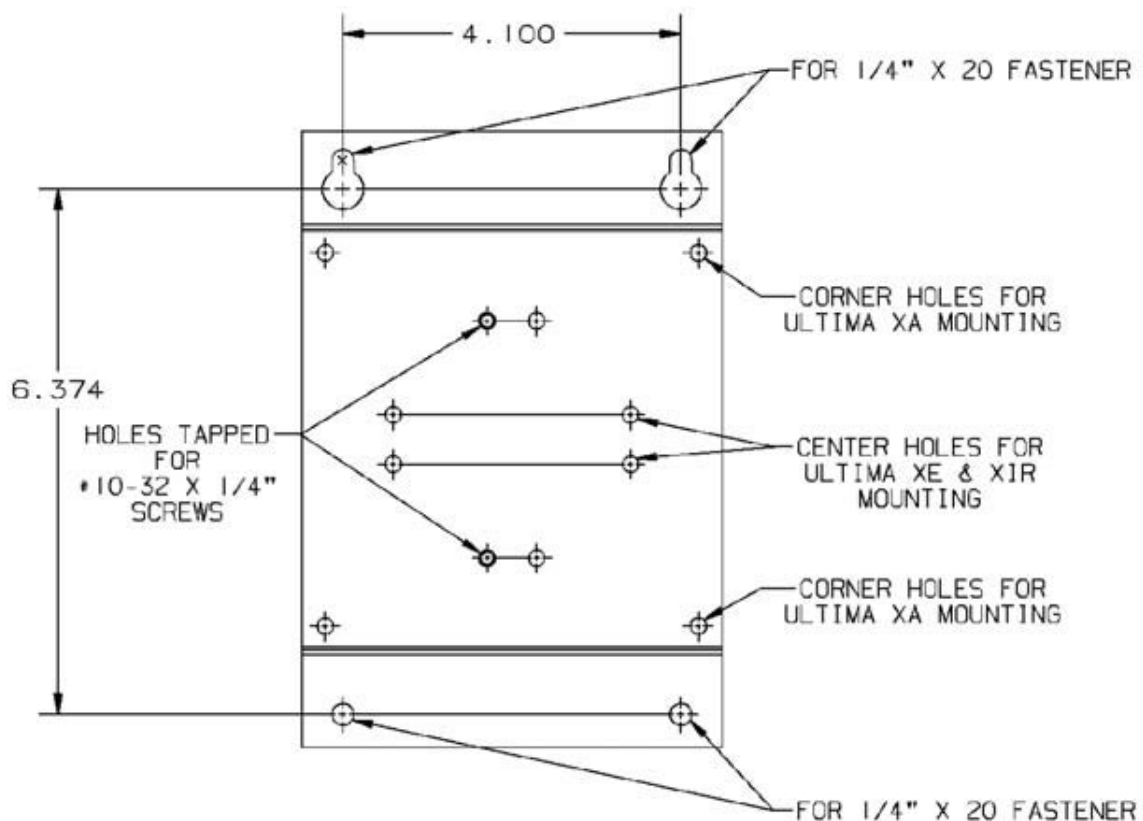

Fig. 7 Ultima XE and XIR Mounting Bracket
- Use mounting holes in the corners of the Ultima XA enclosure to mount to the optional Mounting Kit (P/N 10047561); see Fig. 7.
- The optional Mounting Bracket Kit (P/N 10047561) can be attached to the rear holes of the Ultima XE Gas Monitor (Fig. 7).
- The optional Mounting Bracket (P/N 10047561) can be attached to the rear holes of the Ultima XE Gas Monitor (Fig. 7).